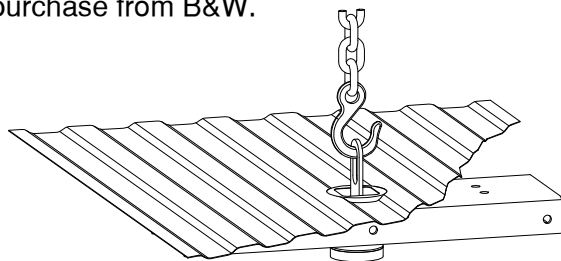

Figure A1
4. **Prepare a lifting device (optional).** The purpose of the device is to safely hold the hitch in position during part of the installation, see Figure A1 for an example. A simple mechanical lifting device is available for purchase from B&W.